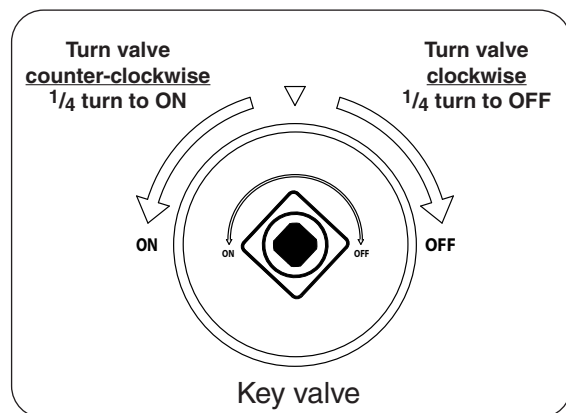

Fig. 47-2
4. **Once the match is burning and in position**, turn the key valve counter-clockwise a  $\frac{1}{4}$  turn to the **ON** position (see Fig. 47-2). Your burner should light.
**WARNING:** If the burner does not light within (5) seconds of turning on the key valve, immediately turn the key valve clockwise a  $\frac{1}{4}$  turn to the **OFF** position.
To extinguish your gas burner, turn the key valve clockwise a  $\frac{1}{4}$  turn to the **OFF** position (see Fig. 47-2). Be sure the key valve is turned fully off to avoid any gas leakage.